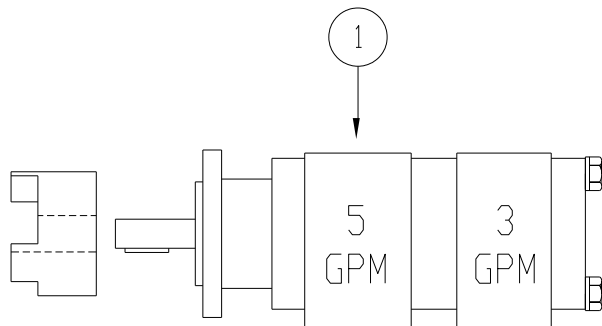

Figure 1
2. Figures 1 through 4 included in these instructions show the assembly of all the parts that comprise the pump installation to the engine block. Each item number on the following parts list can be matched with the item numbers shown on these figures. If any parts you have ordered are missing, call Reimann & Georger Corporation or your local distributor for assistance. Return any damaged parts to the place of purchase immediately. Do NOT substitute any components.
2. Push the pump coupling onto the pump shaft. Coupling should be flush with end of pump shaft. Tighten the set screw in the coupling against the key stock in the pump shaft. Refer to Figures 1 and 2.